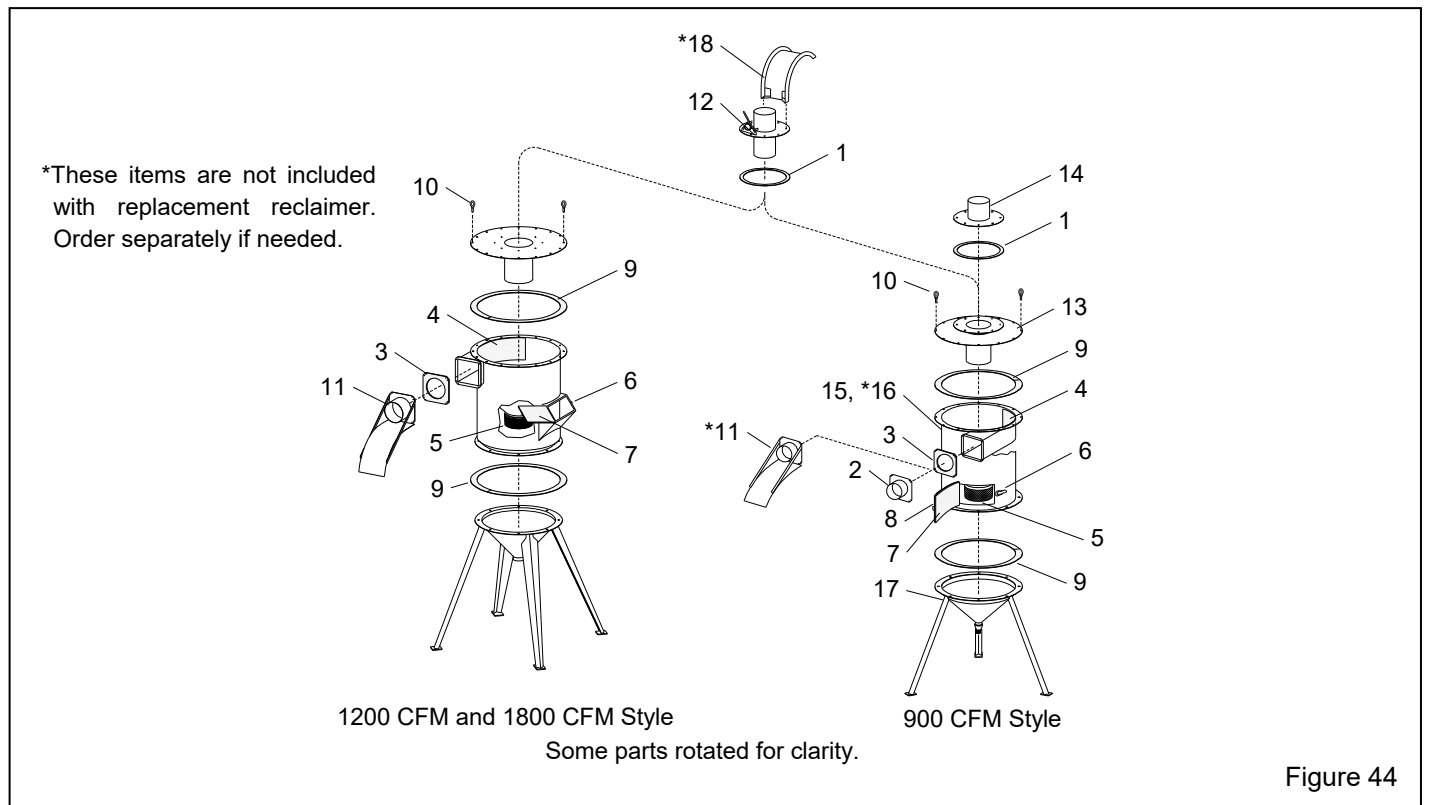

Figure 44
**9.12 Reclaimer – Figure 44**